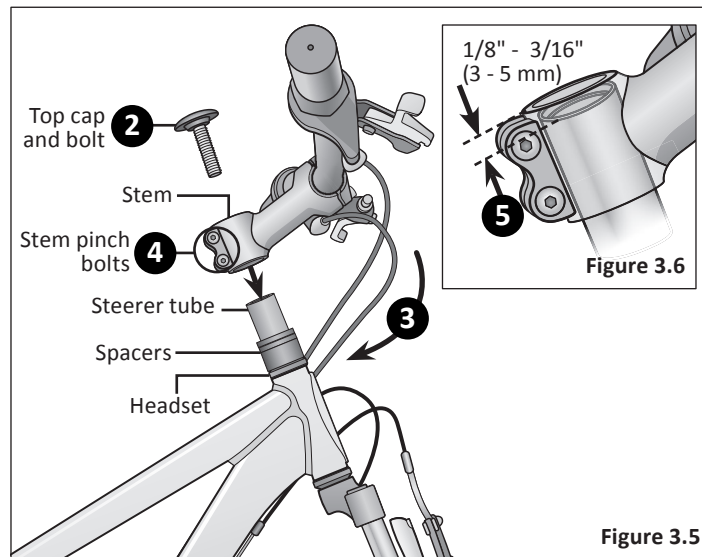

Figure 3.5
- ❷ Using a 5 mm Allen wrench loosen the top cap bolt on the steerer tube and remove the top cap and bolt. **Important! Do not** remove the spacers. **Figure 3.5**
- ❸ Position the handlebar assembly over the steerer tube. Look at all the cables to be sure they run in a smooth arc from the shifter or brake lever to the front brake or cable stop on the frame. **Important!** If they are twisted or kinked, the shifting and braking will not work.
- ❹ While holding the fork assembly in place, use a 6 mm Allen wrench and loosen the stem pinch bolts. Slide the handlebar assembly onto the steerer tube.